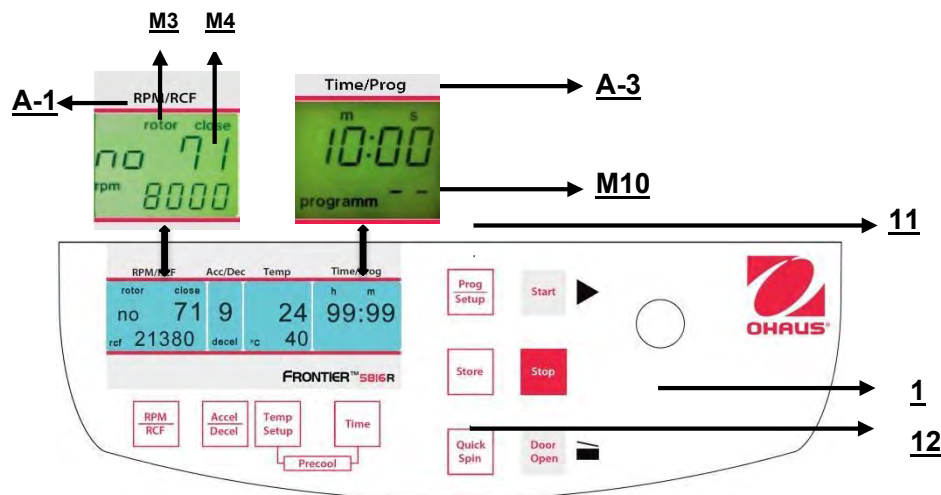

Figure. 25
To recall stored programs press the key **"Prog/Setup"** (11) (refer to figure 25) while the lid is already closed. Inside the display **"Time/Prog"** (A-3), **"programm --"**(M10) appears. The desired program number can be pre-selected with the adjusting knob (1).
To leave the program mode just press the key **"Prog/Setup"** (11) (refer to figure 25). Then inside the display **"Time/Prog"** the word **"programm"** appears.